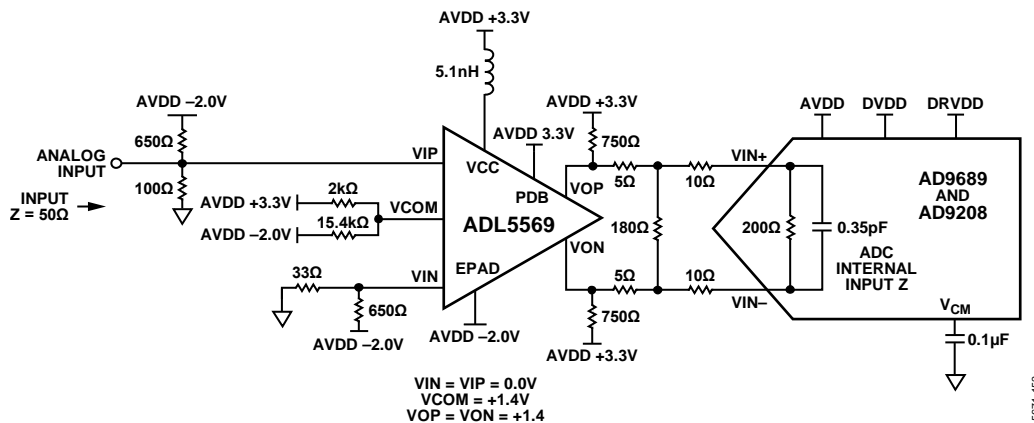

Figure 52. 1.5 GHz Bandwidth, DC-Coupled ADC Interfacing Example: ADL5569 Driving the AD9689 and AD9208
For dc applications, special requirements must be completed for the ADL5569 to accommodate a dc signal and level shift the amplifier to meet the common-mode voltage requirements of the companion converter. Figure 52 shows a 1.5 GHz design example of the ADL5569 using dual supplies of +3.3 V for the VCC and VCC2 pins and -2.0 V for the ground and exposed pad (EP) pins. By using these dual supplies, the internal logic of the power-down pins of the device (PDB and PDB2) is also level shifted to 1.0 V to enable the device.
The example shown in Figure 52 provides a single-ended input design, with an input common-mode voltage of 0.0 V. The output common-mode voltage is designed to accommodate 1.4 V to interface with the AD9689 analog inputs. The VCOM pin cannot be regarded as high-Z for the purposes of a voltage divider calculation for the 2 kΩ and 15.4 kΩ resistors. The 1.5 GHz bandwidth limitation of this design is not due to any of the passive components, but it is an inherent practical limitation of the ADL5569 and AD9689/AD9208 combination.